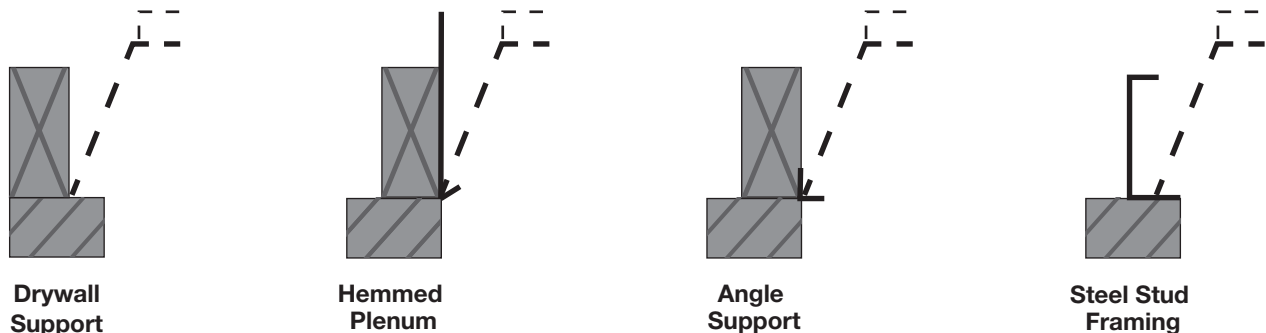

Figure 5 (Step 3B): Hanger Support Options
- B. There are several ways to support the hanger brackets – see Figure 5.